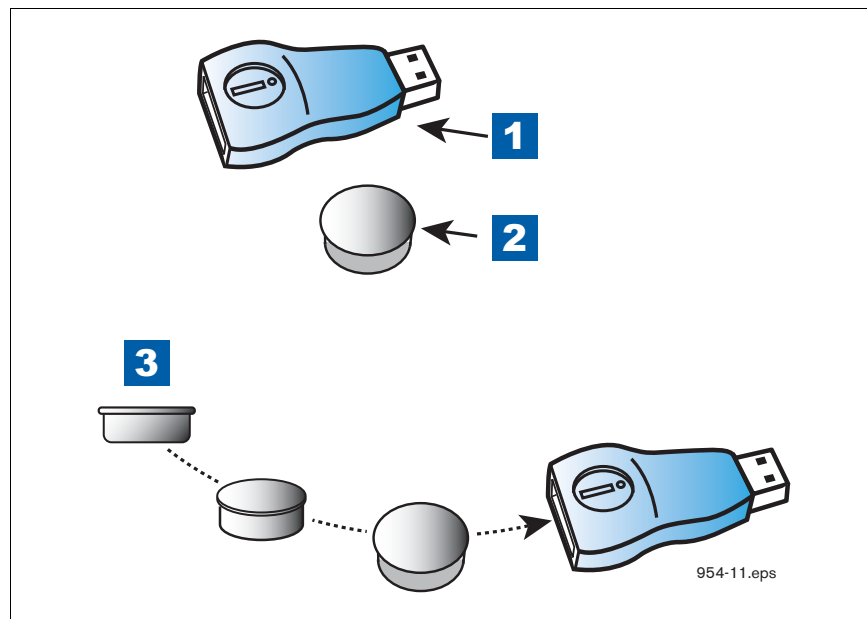

Figure 5. Inserting iButton Into USB Adapter
1. Get the USB Adapter and upgrade i-button from the upgrade kit. Remove the plastic end cap from the USB Adapter and Insert the i-button in the adapter as shown in Figure 5 below.
LEGEND FOR NUMBERED BOXES IN Figure 5